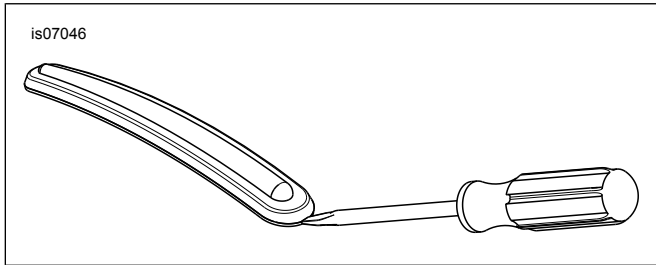

Figure 1. Remove Fender Trim Strip
- b. See Figure 1. Insert the tip of the screwdriver between the chrome bezel and the rubber trim strip.